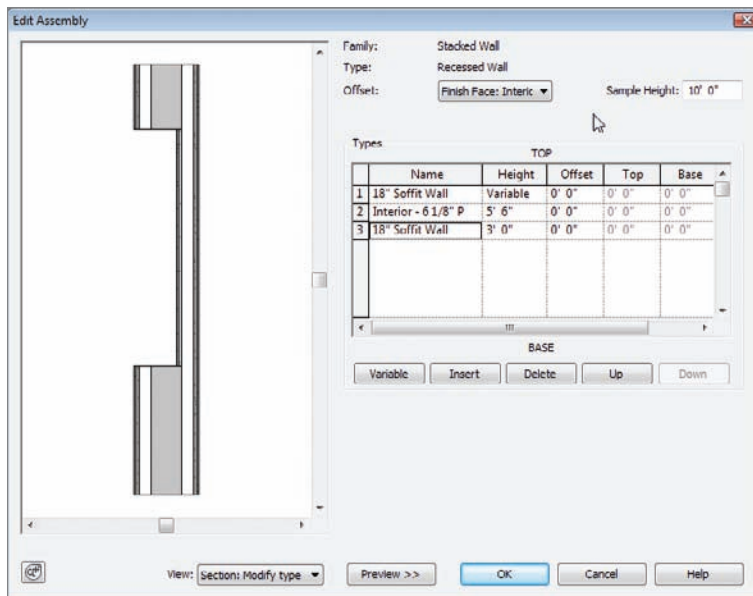

FIGURE 16.23 Creating the stacked wall
14. At the top of the dialog, change Sample Height to 10'–0" (see Figure 16.23).